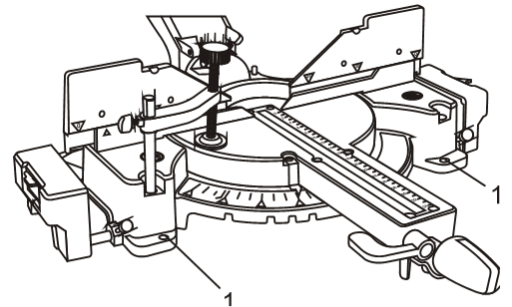

Fig. 6
It is strongly recommended to anchor the mitre saw using either 5/16" lag bolts and flat washers or appropriate 5/16" bolts through the four base casting mounting holes (1) (Fig. 6). There are two mounting holes in the front of the base casting and two in the rear of the base casting.